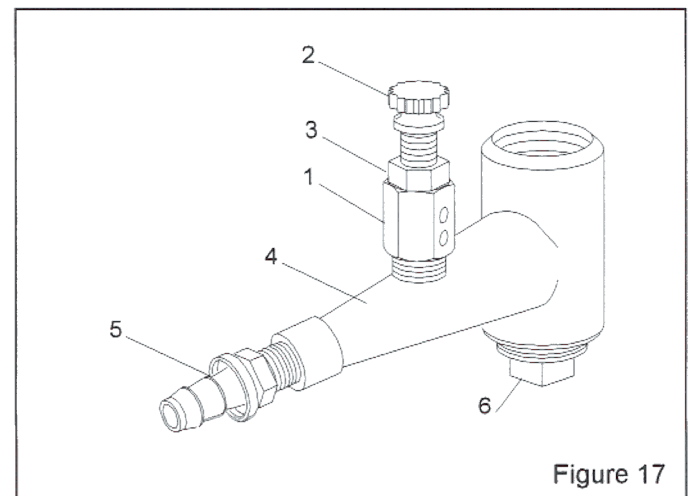

Figure 17
9.4 Metering valve assembly, Figure 17